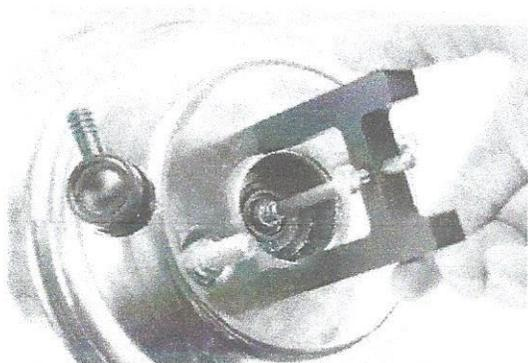
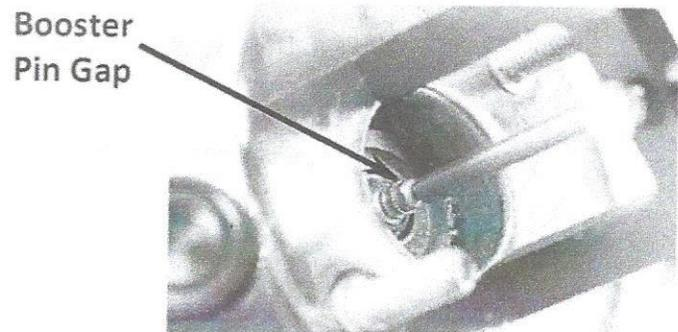

Figure 2a – Tool Positioned on the Booster
Figure 2b – 0.020" Gap
3. Position the long side of the tool against the brake booster (see figure 2a). Using a feeler gauge, adjust the booster pin so the gap is between the tool and the pin (as shown in figure 2b). This gap should be set to 0.020".